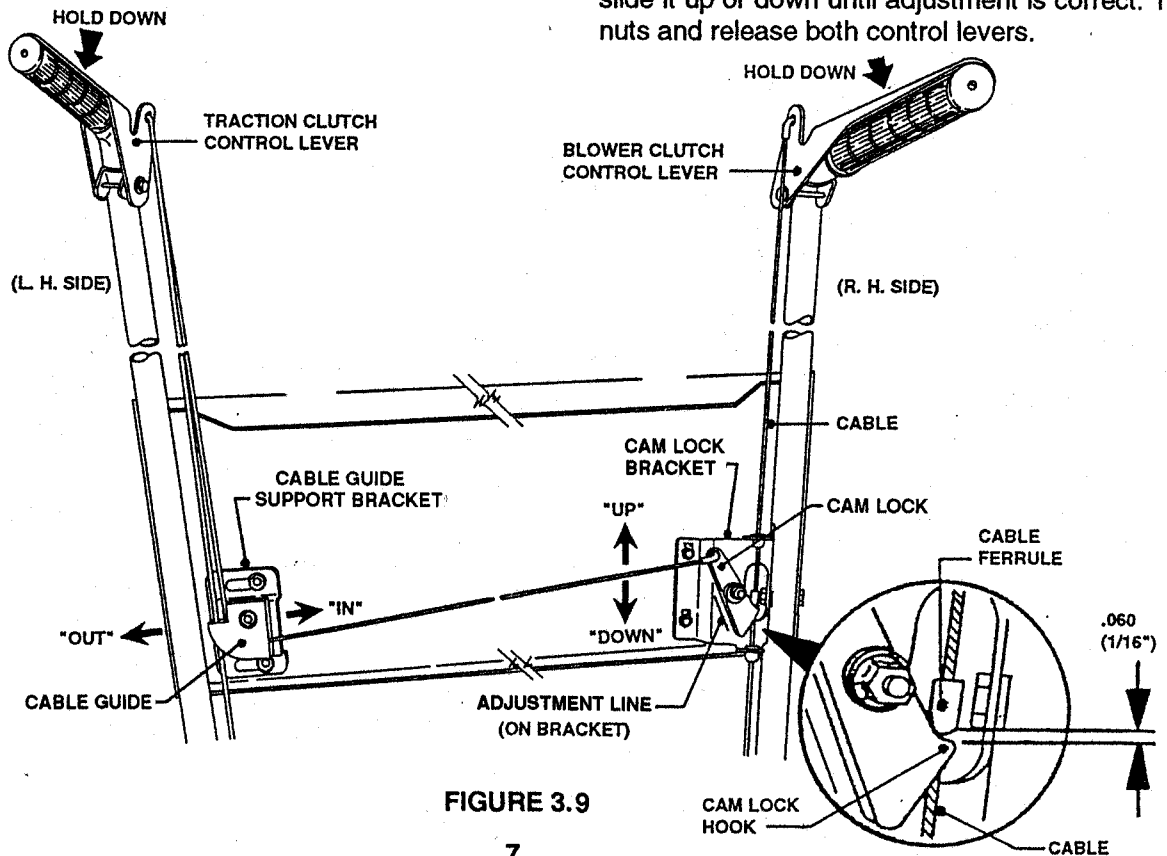

FIGURE 3.9
- Hold the traction clutch control lever down against the handle (L.H. Side) See Figure 3.9.
- Check the position of the cable ferrule shown in Figure 3.9.
- The ferrule shown in Figure 3.9 must be located 1/16" (.060) above the hook of the cam lock. To adjust, loosen the three nuts on the cam lock bracket and slide it up or down until adjustment is correct. Tighten nuts and release both control levers.